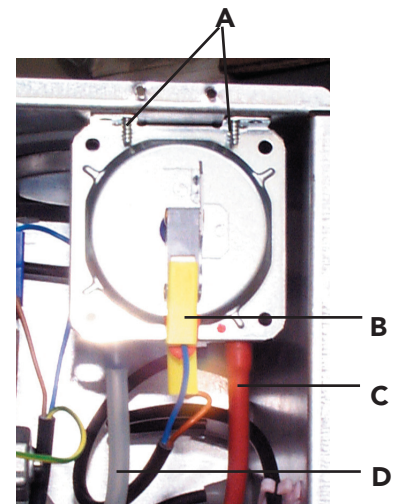

Fig. 34
**7.06 Air pressure switch (fig. 34)**